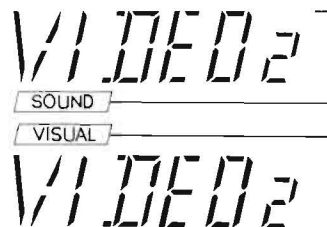

Fig. 19
1. Press the VIDEO 2 (VIDEO 1, VCR) button; the corresponding SOUND and VISUAL indicators in the display will light (Fig. 19).